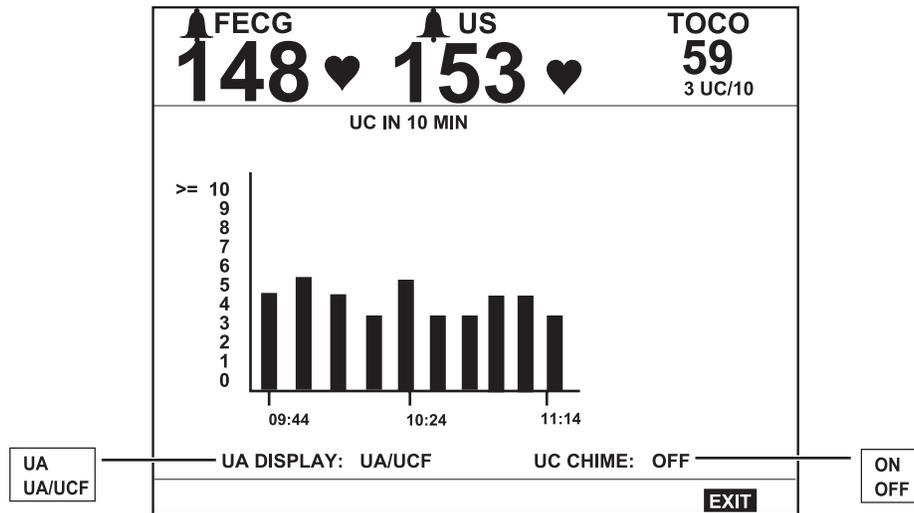

Figure D-10. UC Frequency Histogram
2. Set the UA Display field to the desired setting: UA or UA/UCF. Refer to Figure D-10.
If the Spectra Alerts option is enabled, the UA Setup screen displays a UC Frequency Histogram as shown in Figure D-10. Each bar in the graph represents the number of contractions in a ten-minute segment. The graph displays up to 10 bars (or 100 minutes).
2. Set the UC Chime field to the desired setting: ON or OFF. Refer to Figure D-10.